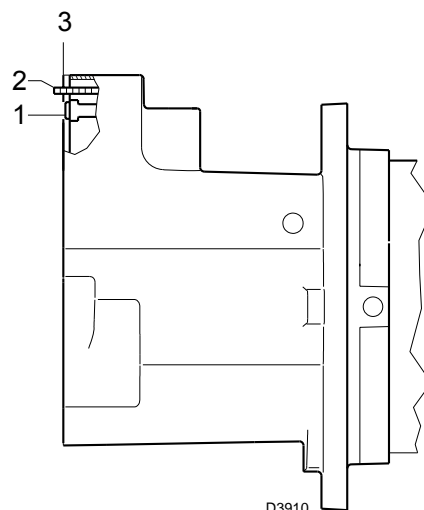

Fig. 15
- Turn screw 1) (Fig. 15) until the notch on the sheet 2) is level with the plate 3).